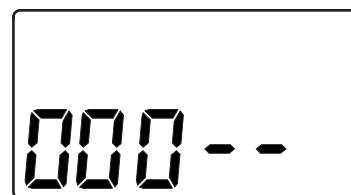
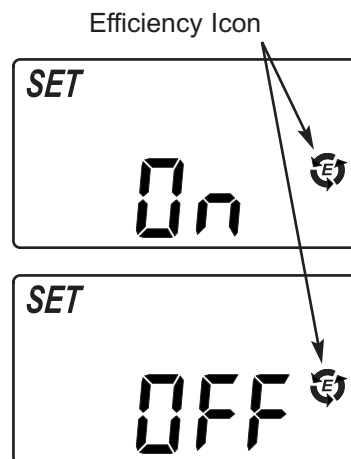

FIG. 25
FIG. 26
1. Press and hold the SELECT/MENU button until the screen in Figure 25 is displayed. Once in this display, press the SELECT/MENU button once and one of the two displays in Figure 26 is shown.